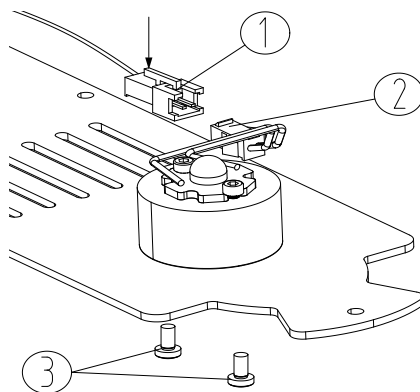

Fig.5
Screw out the lock screw on the bottom group and take out the bottom group. Press on snaps on the connector socket ① (connected with LED control panel) according to the direction of the arrow as shown in the figure, pull out the connector ② (connected with LED). Then screw out the two screws ③ that fixed the LED, replace with a new LED group. Fix the LED group by the two screws, plug the connector ② into connector socket ①, assemble the bottom group to original place (See Fig.5).